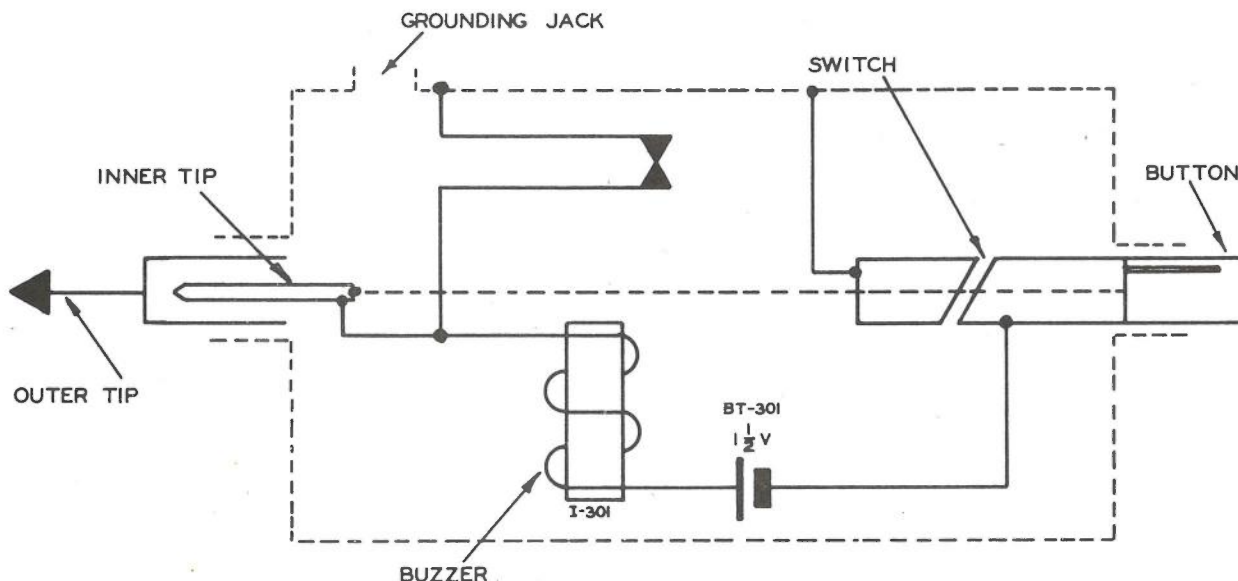

Figure 2-4. Simplified Schematic, Interference Generator
e. BASIC CIRCUIT OF INTERFERENCE GENERATOR SG-23/U. (See figure 2-4.) - This is an aperiodic, impulse buzzer type generator and is housed in a probe case. The simplified schematic is shown in figure 2-4. When the switch is closed by pressing the button at the top of the probe, a modified square wave appears across the energizing coil. The harmonic content of this wave extends into the megacycle region. Varying the position of the inner tip with respect to the outer tip by means of the index at the end varies the coupling capacitance and allows some attenuation. For audio output the inner and outer probes are placed in contact by setting the attenuator at POSITION 1.